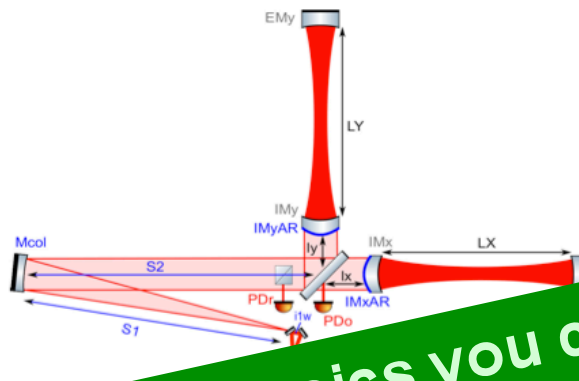

Figure 3: Schematic overview of the initial mode matching set-up for a FP-Michelson interferometer.
The initial mode matching set-up refers to the configuration in which the arm cavities feature extremely large beam sizes at the main test masses, i.e.  $w_1 = 9.72$  m. A schematic overview of this configuration is shown in Figure 3. The arm cavity mode features equal beam sizes on the input (IM) and end test masses (EM), which leads to the cavity waist position being exactly centered in the arm cavities. The mode matching is then done as follows: From the waist ( $i1w$ ) within the pre-mode-cleaner (PMC) the beam diverges over the distance  $S1$  (of the order of 10 m, which is the distance between the central and the far tables) and is collimated by a mirror (Mcol) and send back over  $S2$  towards the beam splitter. As the beam passing the beam splitter is not diverging, no unwanted astigmatism is introduced. The final step of the mode matching is then achieved by shaping the rear surface of the input test masses (IMxAR) to focus the beam into the arm cavities.
Figure 3: Simplified layout of the AEI-10m Sub-SQL interferometer as currently set up in the Finesse input file. The components relevant for the mode matching into the arm cavities are indicated by blue colour.